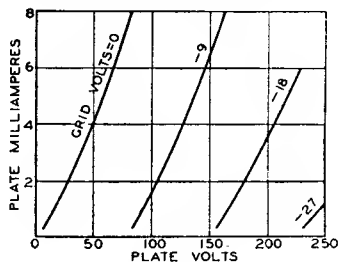
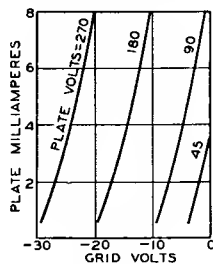

Fig. 11
Fig. 12
**Static characteristics** may be shown by plate characteristic curves and transfer (mutual) characteristic curves. These curves present the same information, but in two different forms to increase its usefulness. The plate characteristic curve is obtained by varying plate voltage and measuring plate current for different grid bias voltages, while the transfer-characteristic curve is obtained by varying grid bias voltage and measuring plate current for different plate voltages. A plate-characteristic family of curves is illustrated by Fig. 11. Fig. 12 gives the transfer-characteristic family of curves for the same tube.